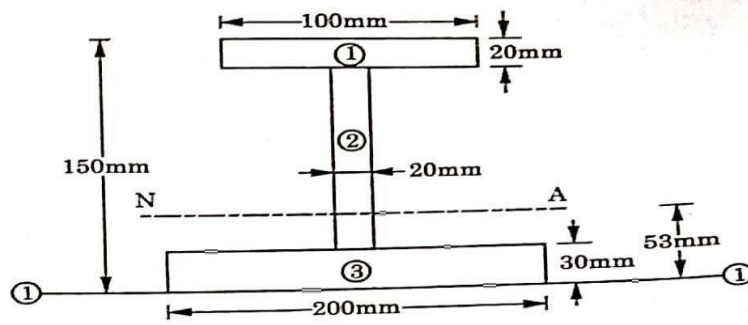

Fig. 5.25
**Example 5.12.** The cross section of cast iron beam is shown in the fig. 5.25. This beam is simply supported at the ends and carries a uniformly distributed load of 20 kN/m. If the span of the beam is 3m, determine the maximum tensile and compressive stresses in the beam.